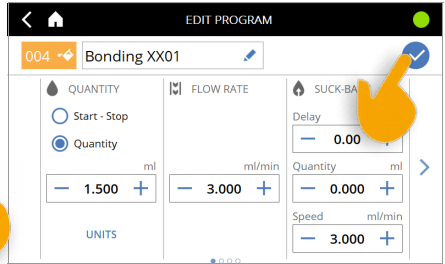

Fig. 58
- ▶ Save the program (Fig. 58). If you forget this step, all your previous settings will be lost.